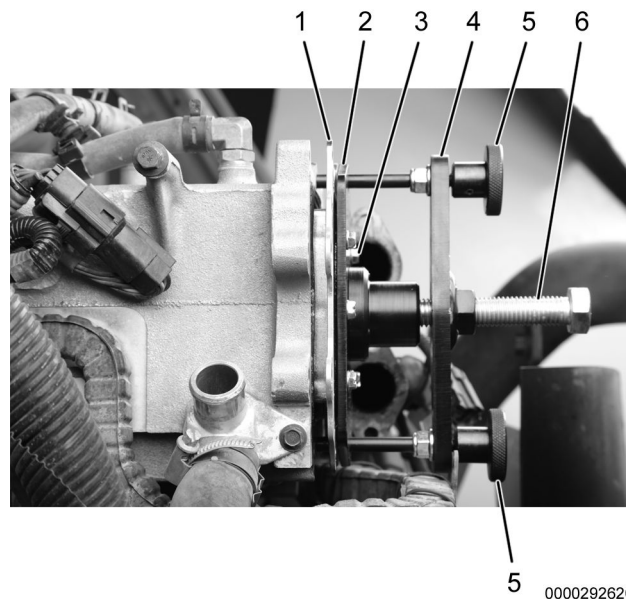

Figure 5. LT EGR Core Puller Self-Tapping Screws.
6. Loosen LT EGR core puller removal forcing screw (Figure 5, Item 6).
7. Remove six self-tapping screws (Figure 5, Item 3) from removal plate (Figure 5, Item 2).
8. Loosen two thumbscrews (Figure 5, Item 5) and remove LT EGR core puller (Figure 5, Item 4) from LT EGR cooler core (Figure 5, Item 1).
9. Clean anti-seize compound from threads of two thumbscrews (Figure 5, Item 5).